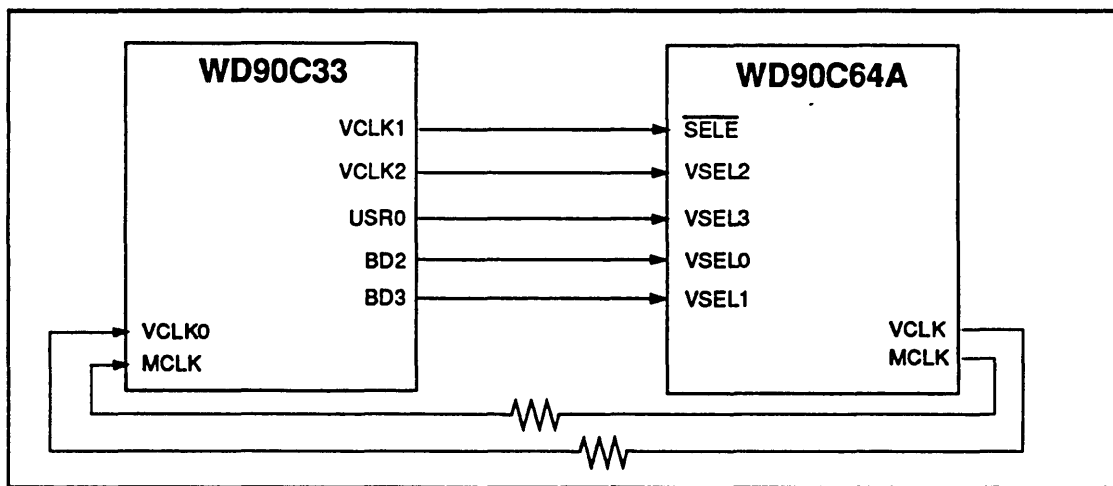

FIGURE 3-10. CLOCK INTERFACE
- Figure 3-10. Clock Interface
Figure 3-10 shows the clock interface with external oscillators configured as inputs. Clock selection is determined by register 3C2h, Bits 3:2 as listed in the following table.